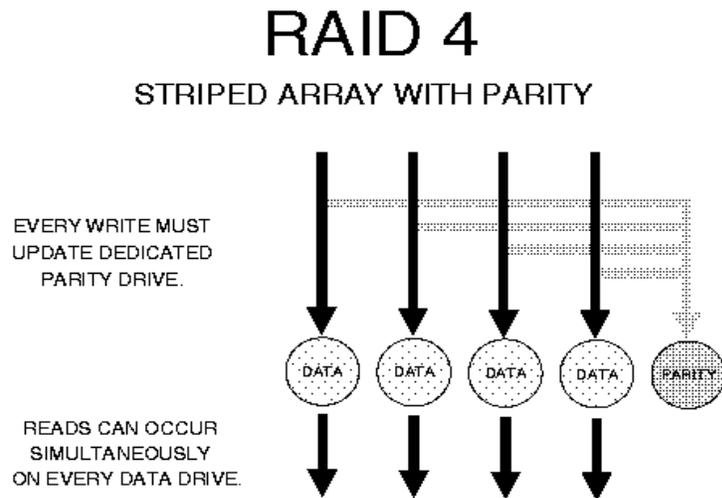

Figure 46. Striped Array with Parity
**RAID-4** is identical to RAID-3 except that large stripes are used, so that records can be read from any individual drive in the array (except the parity drive), allowing read operations to be overlapped. However, since all write operations must update the parity drive, they cannot be overlapped. This architecture offers no significant advantages over RAID-5 and is not supported by SCSI RAID adapter, Figure 46.